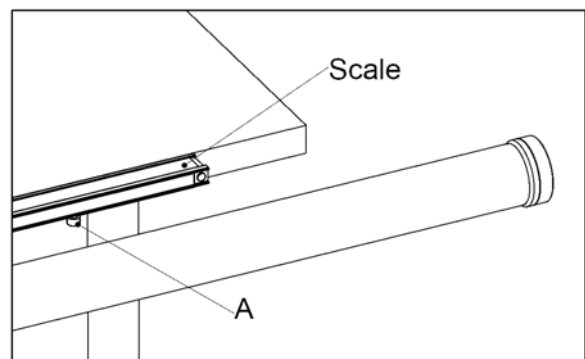

Fig. 49
First time use or each time the blade change, the scale must be adjusted. Put the fence in a certain position and cut a test piece. Measure the length of the test piece. Loose the knob (A) under the scale and move the scale until it matches the length of the previously cut sample, see *Fig.49*